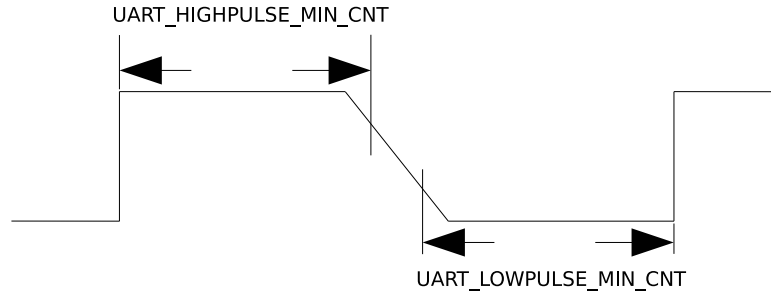

Figure 22-4. The Timing Diagram of Weak UART Signals Along Falling Edges
2. If UART signals are weak along falling edges as shown in Figure 22-4, which leads to inaccurate average of `UART_LOWPULSE_MIN_CNT` and `UART_HIGHPULSE_MIN_CNT`, use `UART_POSEDGE_MIN_CNT` to determine the transmitter's baud rate as follows: